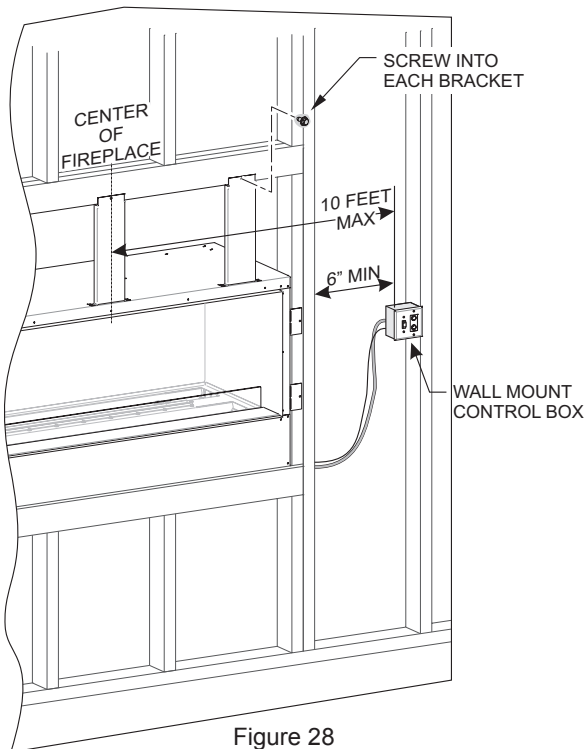

Figure 28
3. Secure three standoff brackets with drywall screws to the framed opening above the fireplace as shown in Figure 28.
7. Install the wall-mounted control box within 10 feet of the center of the fireplace. (See Figure 28)